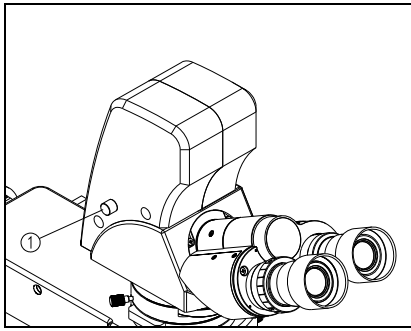

Fig.40
The white balance function is disabled when the white balance switch ① is popup, while it is enabled when the switch is pressed down. The switch is mainly for adjusting the color of the microscope TV image. (See Fig. 40)